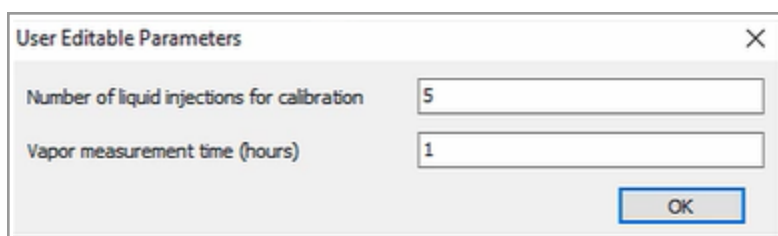

Figure 32 - User Editable Parameters Window
7. Once launched, before the Coordinator window opens up, the User Editable Parameters window will pop up Figure 32.